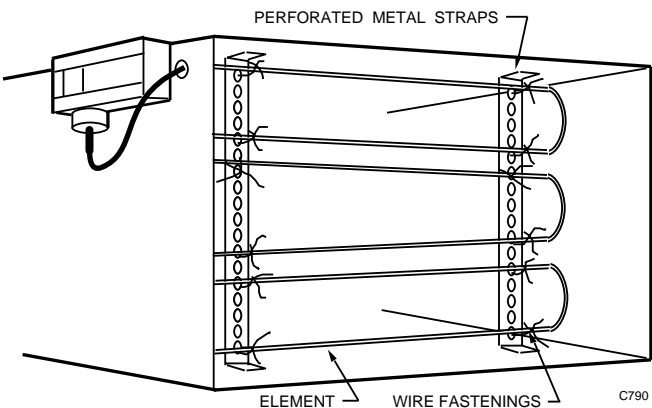

Fig. 3. Element mounted in duct with perforated metal straps.
- b. Coil fastening: Use perforated metal straps (Fig. 3).